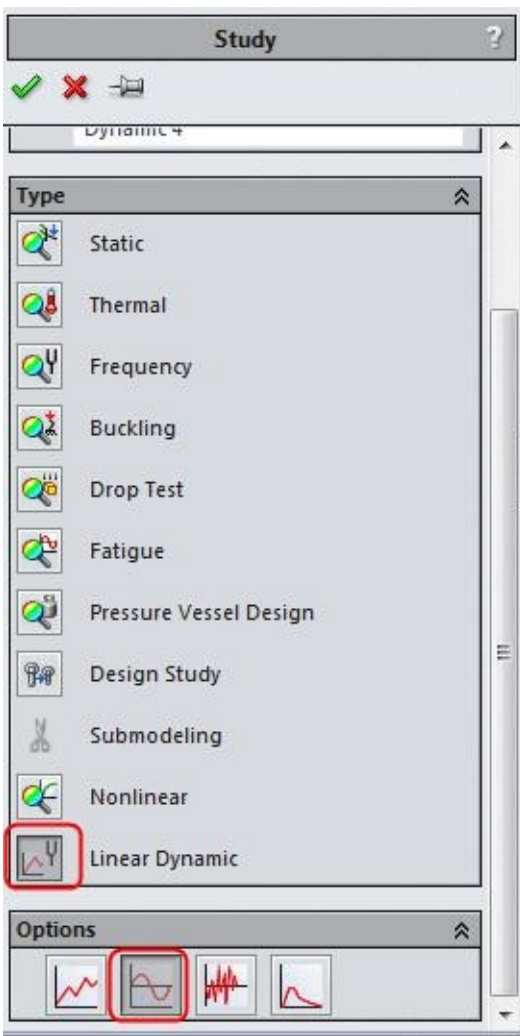

Figure-15. Harmonic Study button
- Click on the **Linear Dynamic** button and then on the **Harmonic** button from the **Options** rollout; refer to Figure-15.